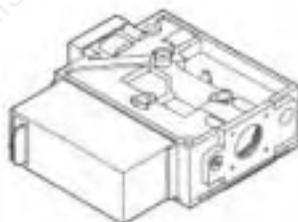

Figure 52
**Step 5. Electronic Appliances** – Remove ten (10) screws and remove the complete spud assembly.
**Step 6. Electronic Appliances** – Mark the wires to the gas valve. Then remove and replace the gas valve (Figure 52).